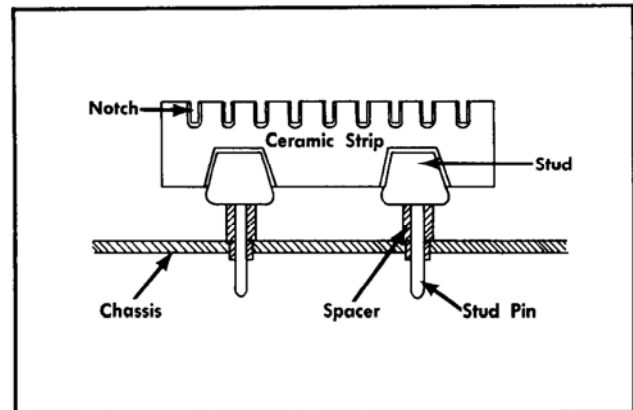

Fig. 4-5. Ceramic terminal strip assembly.
**Ceramic Terminal Strip Replacement.** A complete ceramic terminal strip assembly is shown in Fig. 4-5. Replacement strips (including studs) and spacers are supplied under separate part numbers. However, the old spacers may be re-used if they are not damaged. The applicable Tektronix Part Number for the ceramic strips and spacers used in this instrument are given in the Mechanical Parts List.